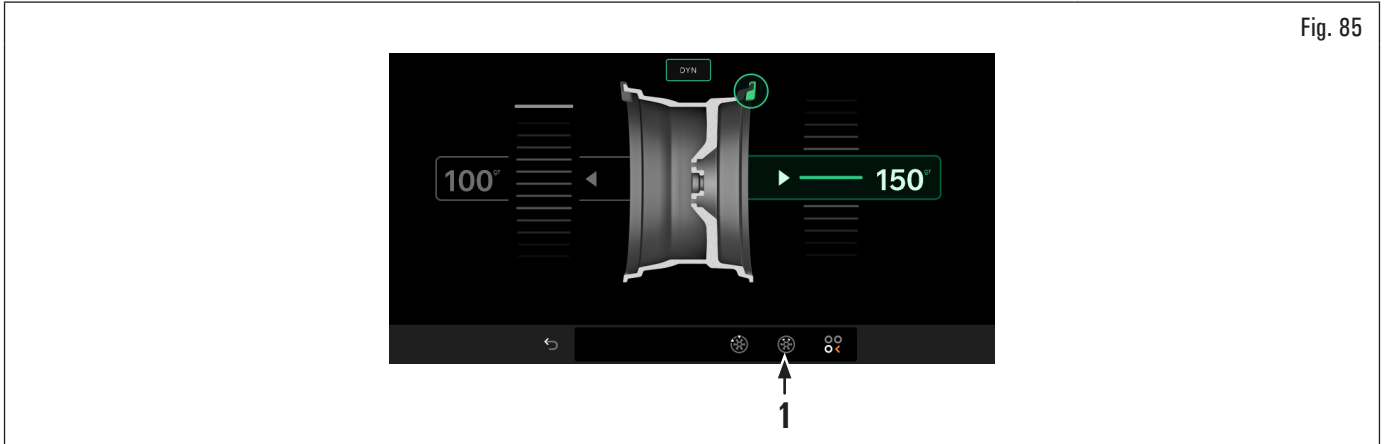

Fig. 85
Once detected the unbalance values, verify that the equipment displays the ability to use the "SPLIT" options (Fig. 85 ref. 1). Press icon  to shift to the next screen page.